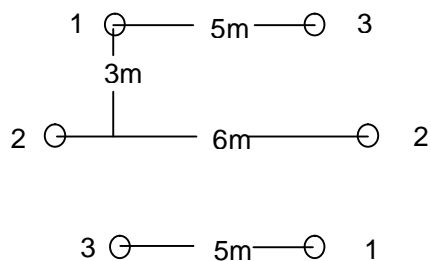

Fig. 1
3. Find the inductance and capacitance per phase per km of double circuit 3-phase line shown in Fig.1. The line is completely transposed and operates at a frequency of 50Hz. The radius of the conductor is 7mm.